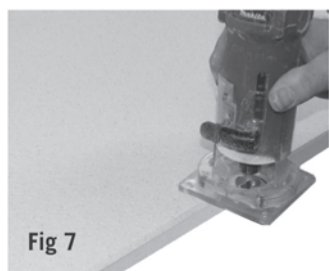

Fig 7
4. Always use a router / trimmer fitted with a bottom bearing radius cutter or alternatively use 240 grit sand paper and a hand block to create a pencil round radius.\* (Fig 7)